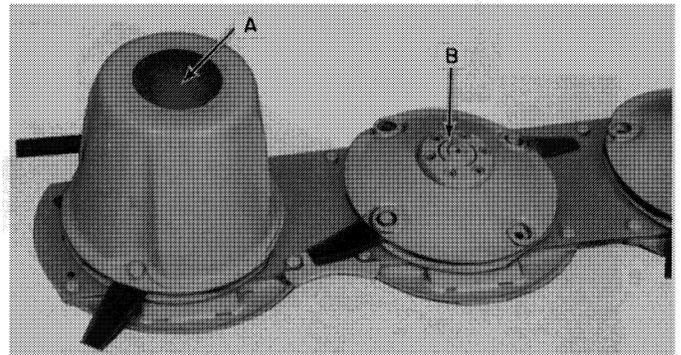

FIGURE 5
1. Remove the crop divider end cap at A, Figure 5. Cap can be removed by prying it out of divider with a screw driver. Remove the four discs by removing the allen head bolts in the hubs B.